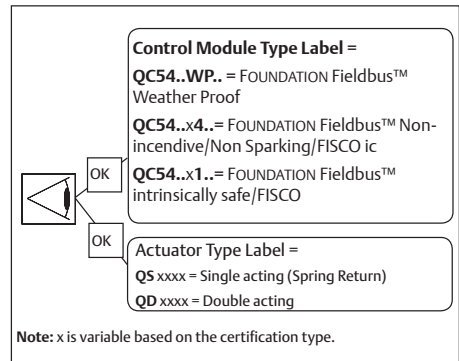

Fig. 2.2 Identification
- * Check the module label for the right execution (see figure 2.2)
- * Check the type of actuator: single or double acting (see figure 2.2).